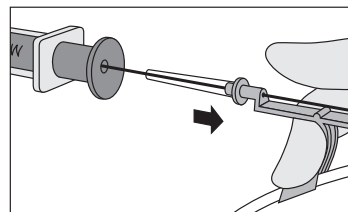

Fig. 7
- Raise your thumb and pull the Advancer™ approximately 4 cm to 8 cm away from the syringe. Lower thumb onto the Advancer™ and while maintaining a firm grip on the spring-wire guide, push the assembly into the syringe barrel to further advance the spring-wire guide. Continue until spring-wire guide reaches desired depth (refer to Fig. 7).